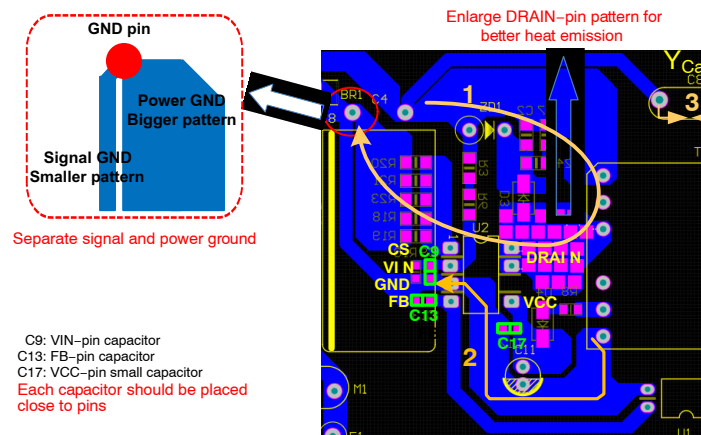

Figure 46. Layout Considerations
- As indicated by 1 in Figure 46, the high-frequency current loop is formed by beginning of the bridge rectifier, bulk capacitor, a power transformer to return to bulk capacitor. The area enclosed by this current loop should be designed as small as possible to reduce conduction and radiation noise. Keep the traces short, direct, and wide. High-voltage traces related the drain of MOSFET and RCD snubber should be kept far away from control circuits to prevent noise interference affecting low voltage signal paths at the control part.